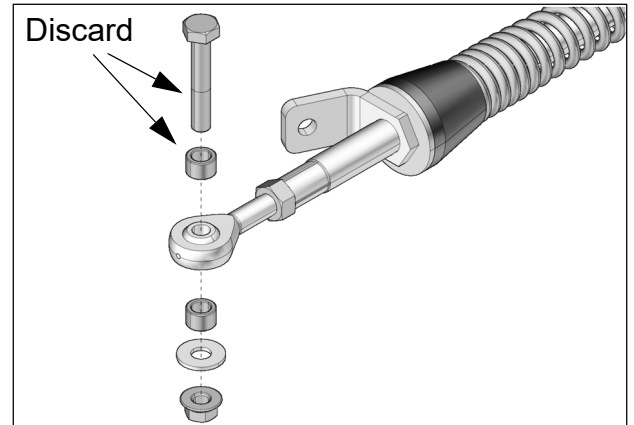

Fig. 3
4. Remove bolt, washer and spacer bushings from the rear stabilizing rod end. Discard M10x60 mm bolt and one spacer bushing from the disassembled set of parts. See Fig. 3